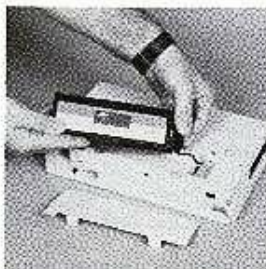

Figure 4-6
- b. Install the rechargeable battery as shown in Figure 4-6. (The battery clip connector is keyed and only attaches one way.) Slip the battery pull strap around the battery so that you can lift the battery out of the slot easily.